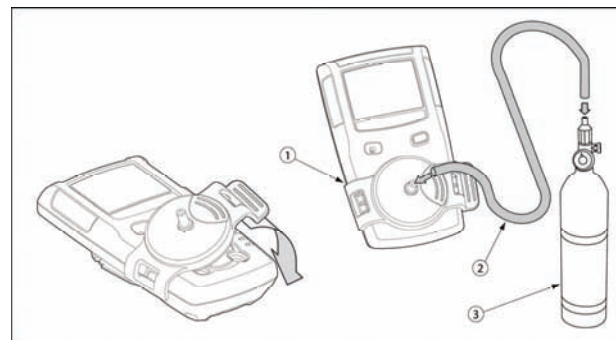

Figure 3. Applying Gas to the Sensors
The calibration cap and hose, which is shipped with the detector, simplifies sensor testing and calibration. Figure 3 and Table 10 show how to use it when applying gas to the sensors.
- A gas cylinder icon flashes and **AUTO-SPAN** remains displayed as you attach the calibration cap and apply gas to the sensors at a flow rate of 250 to 500 ml/min. (refer to Figure 3. Applying Gas to the Sensors).